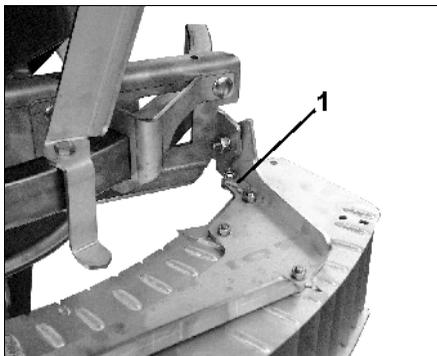

**Fig. 45**
**For late top dressing** the boundary spread deflector is brought into a medium high position (Fig. 45).